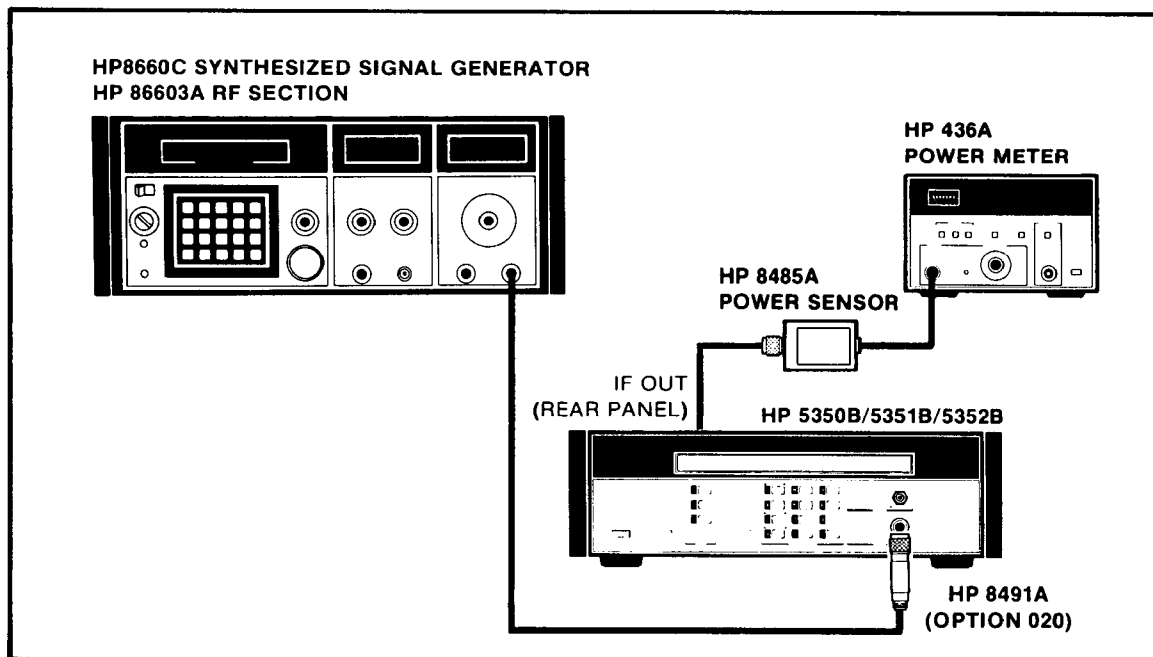

Figure 5-4. 175 MHz Elliptic Filter Adjustment Setup
- b. Connect the synthesizer output to INPUT 1 of the 5350B/51B/52B through the HP 8491A 20 dB attenuator. Connect the power meter and power sensor to the IF OUT connector on the rear panel of the counter. See *Figure 5-4*.
- a. Connect a house standard (1, 2, 5, or 10 MHz reference frequency) to the EXTERNAL SYNC INPUT of an oscilloscope and set the oscilloscope to EXTERNAL SYNC. Connect the 5350B/51B/52B rear panel 10MHZ OUT to the Channel A input of the oscilloscope. (See Figure 5-4.)